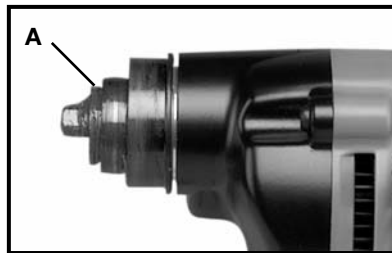

Fig. 4
Put a few drops of heavy oil on the eccentric bearing assembly (A) Fig. 4, so that it saturates the needle bearing. The outside surface of the eccentric bearing ring and the yoke of the center blade should be coated with bearing lubricant.